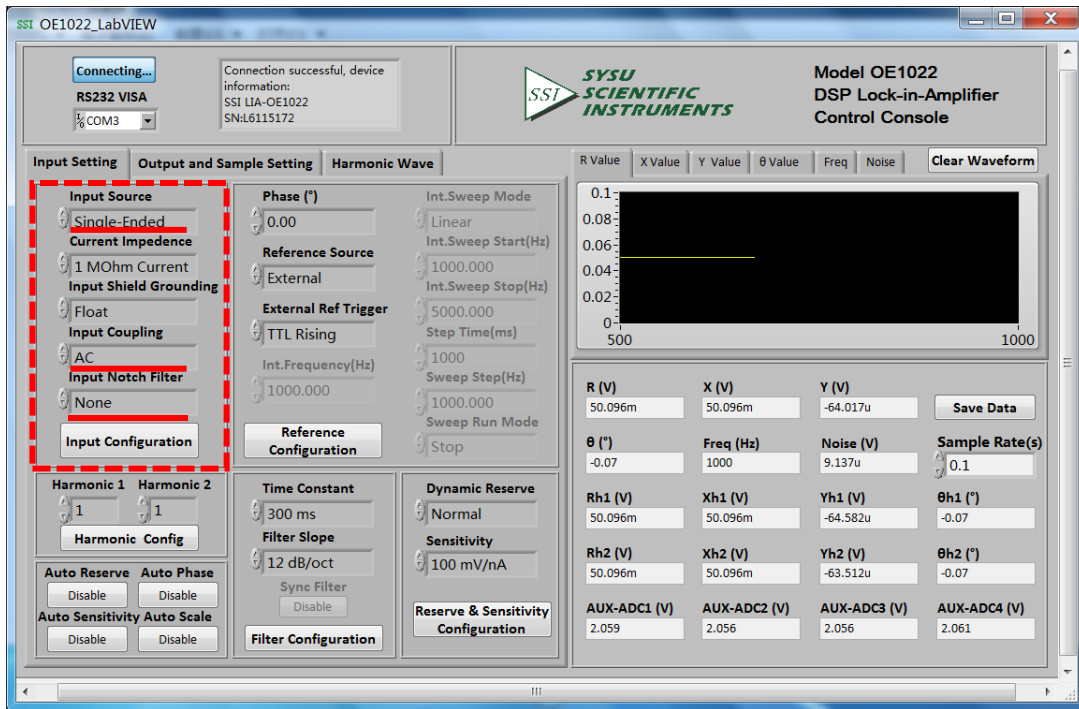

Fig.74 Input Signal Configuration Diagram
1. Choose these options in input signal configurations, including input signal type, input coupling way and start notch filter or not with other options in default, as is shown in Fig.74.